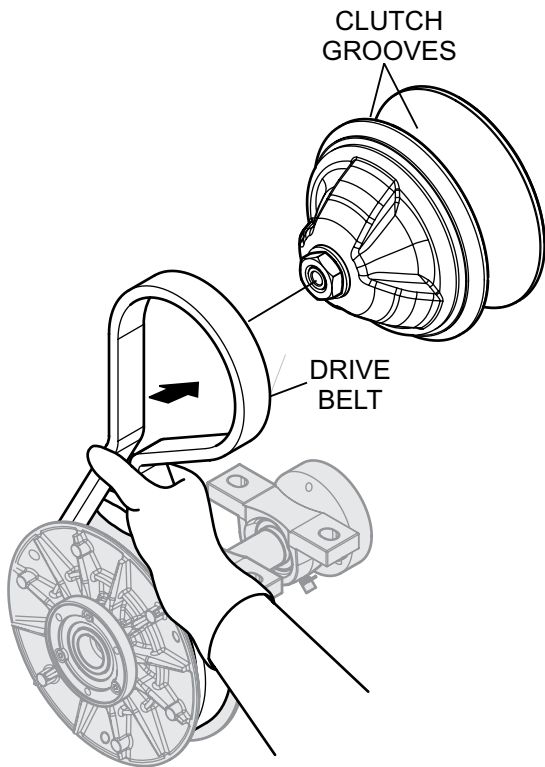

Figure 32. Spare Drive Belt Placement (Clutch)
- Place spare drive belt onto clutch as shown in Figure 32.